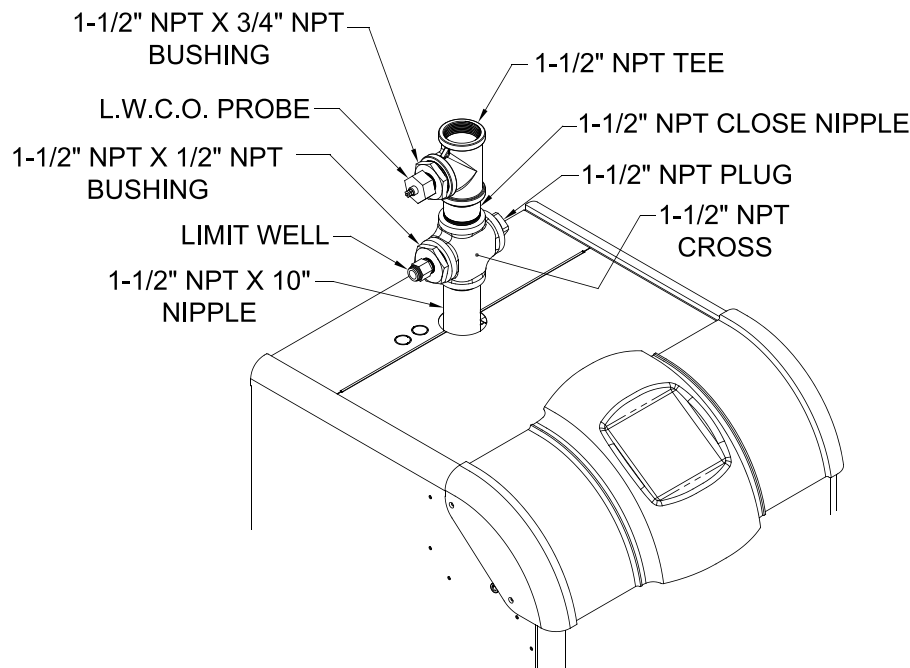

Figure 12: Near Boiler Piping
5. See Figure 12 for suggested near boiler piping of Option Card Controls.
If a low water cut-off is required, it must be mounted in the supply piping above the boiler (see Figure 12). The minimum safe water level of a hot water boiler is just above the highest water containing cavity of the boiler; that is, a hot water boiler must be full of water to operate safely.